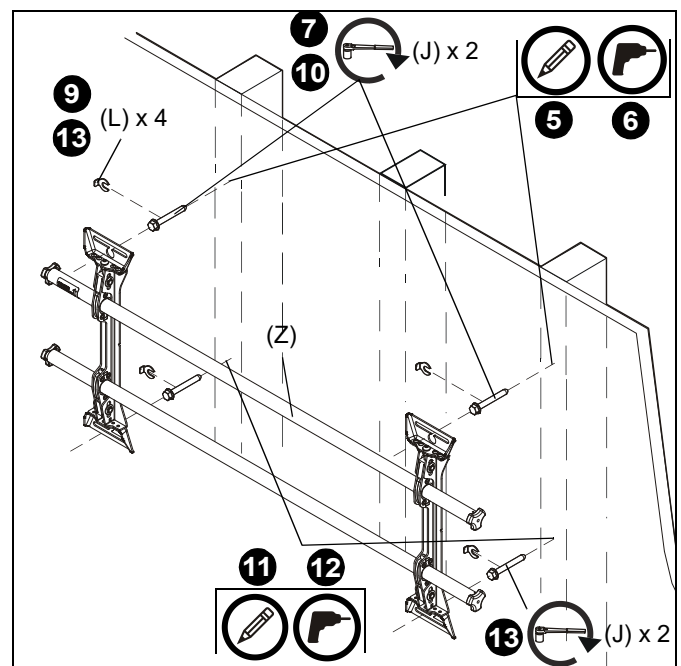

Figure 2
5. Using a level, mark the wall on each stud to attach the mount through the upper mounting slots. (See Figure 2)
7. Partially install two 5/16 x 2-1/2" flanged lag bolts (J) into pilot holes but do not tighten to wall.
8. Hang mount (Z), aligning upper mounting slots over lag bolts and adjust side-to-side for proper location.
9. Place one slotted washer (L) over each flanged lag bolt. (See Figure 2)
10. Tighten lag bolts to secure mount (Z) to wall at upper mounting slots.
12. Drill 7/32" (5.5mm) pilot holes at markings for lower mounting holes. (See Figure 2)
13. Use two 5/16 x 2-1/2" flanged lag bolts (J) and two 5/16" slotted washers (L) to attach the mount to the wall through the lower mounting holes. (See Figure 2)